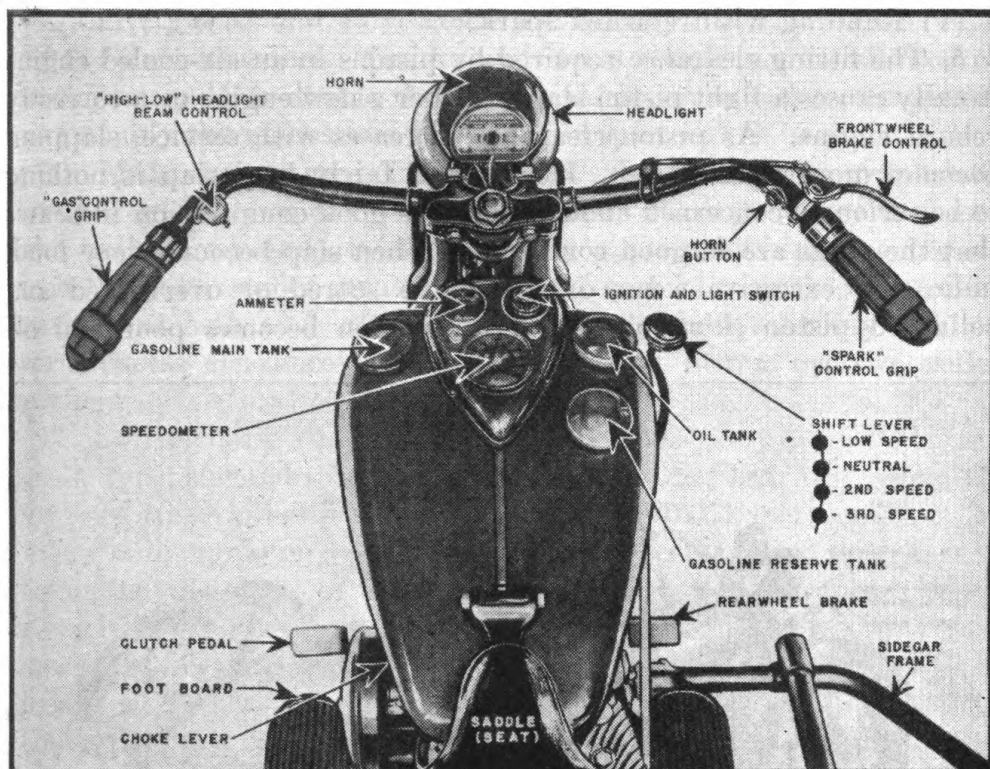

FIGURE 4.—Motorcycle from driver's saddle (seat).
7. General.—*a.* Figures 4, 5, and 6 illustrate the nomenclature of the motorcycle.